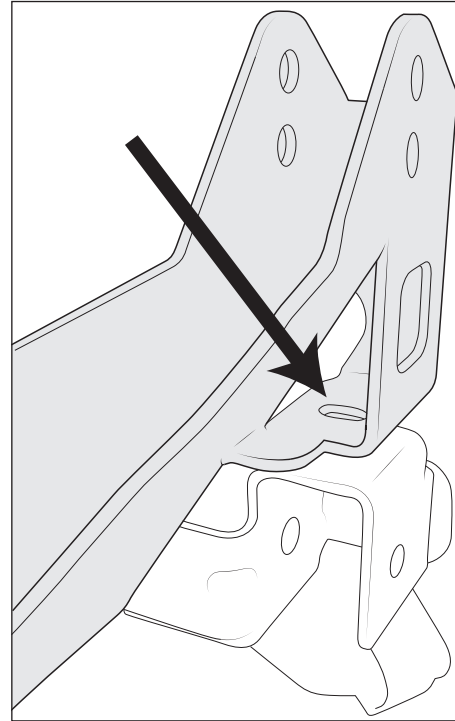

Figure 5
- A. Position the rear track bar tower on the axle and mark the hole as shown. (Fig. 5)